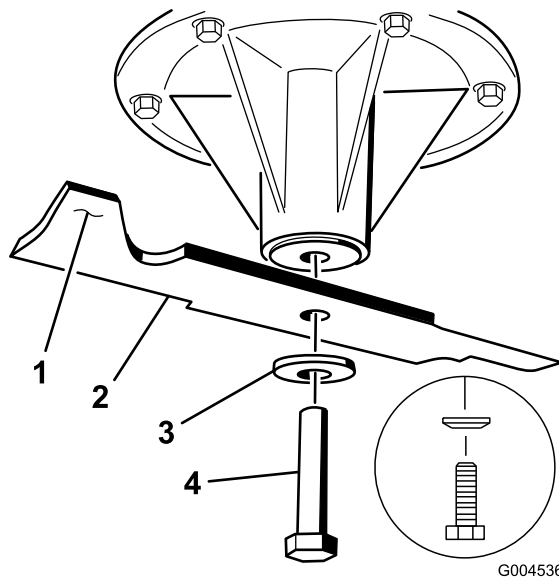

Figure 80
1. Install the blade onto the spindle shaft (Figure 80).
2. Install the spring disk and blade bolt. The spring disk cone must be installed toward the bolt head (Figure 80). Torque the blade bolt to 85-110 ft-lb (115-150 N-m).